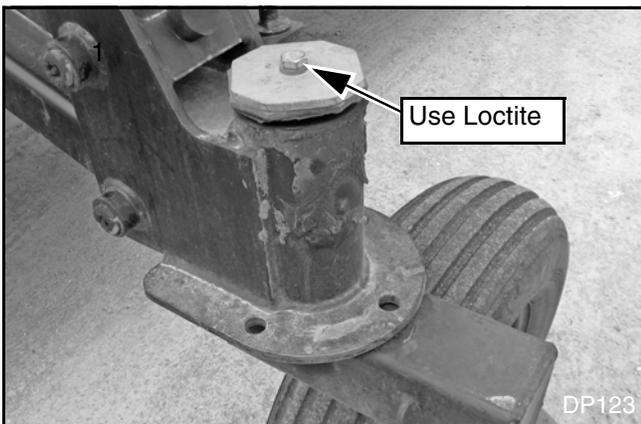

Figure 49. Caster Yoke Installed
6. Attach caster yoke assembly to pivot assembly, Figure 49. Use Loctite on hex bolt.